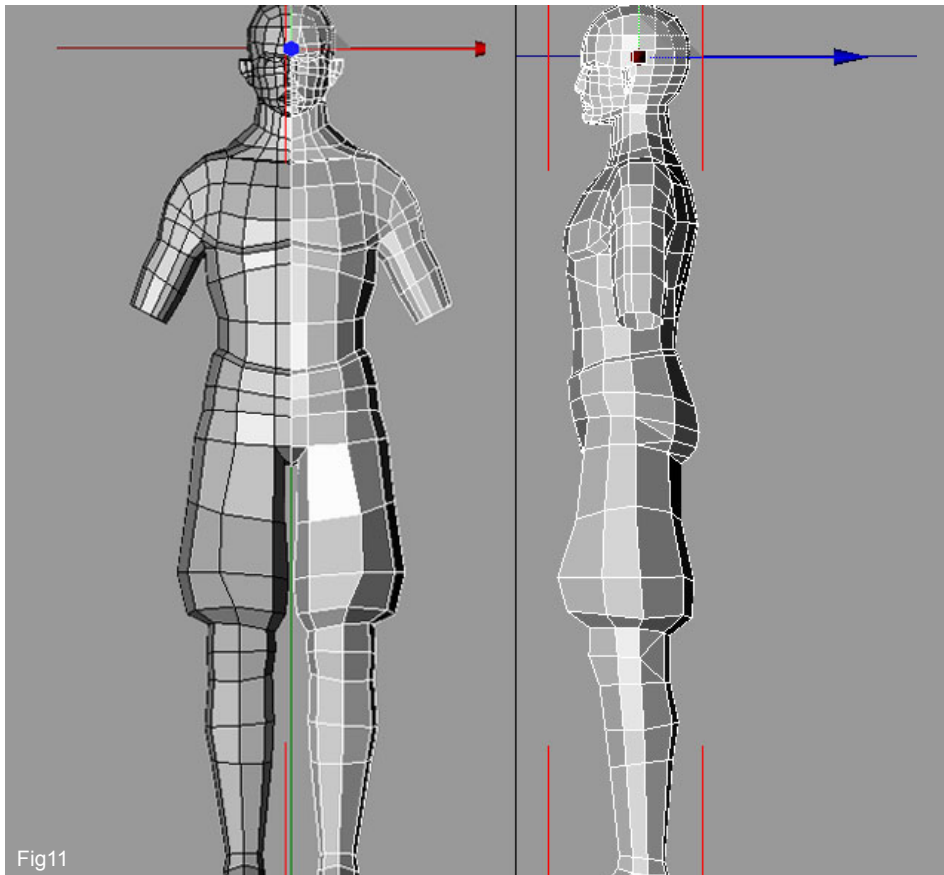

Fig11
11. With this done connect the two objects (body and trousers) and join them by using the "Bridge" tool. Then proceed to transform the verts into positions that resemble Fig11.